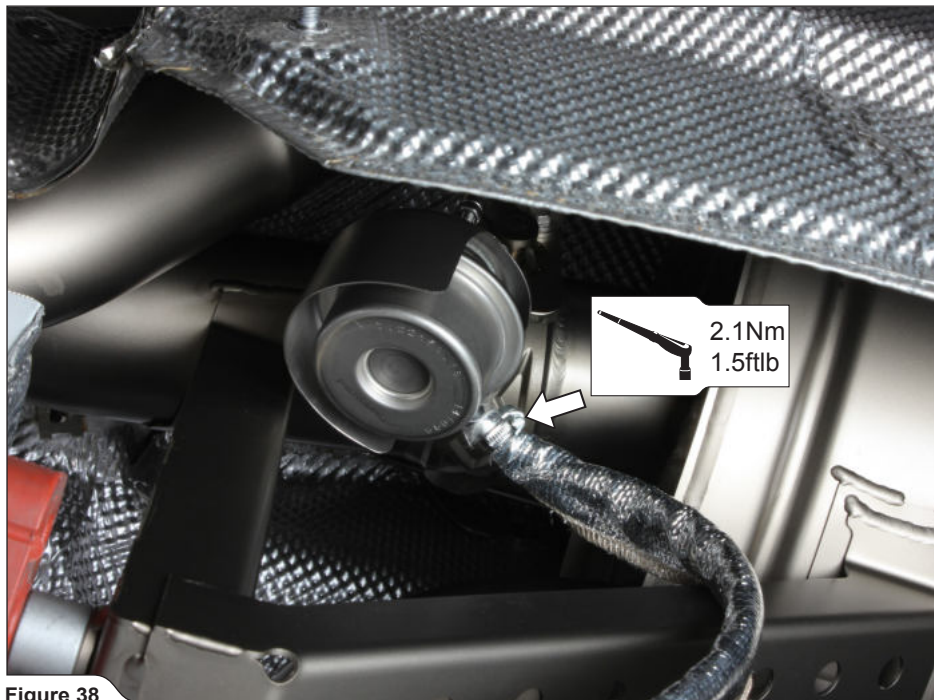

Figure 38
5. Replace the stock vacuum tubes with Akrapovič vacuum tubes, as shown (Figure 38, 39).